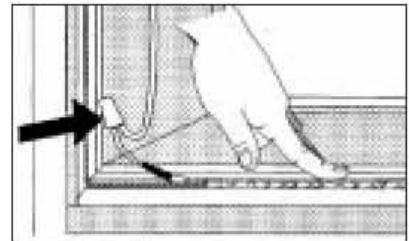

Fig. 4
4. Press the new heater into place using your finger. Be careful not to damage the insulation on the heater. Splice the heaters using line-to-line connectors (Fig. 4). **WARNING! Only an authorized technician should perform heating cable replacement.**